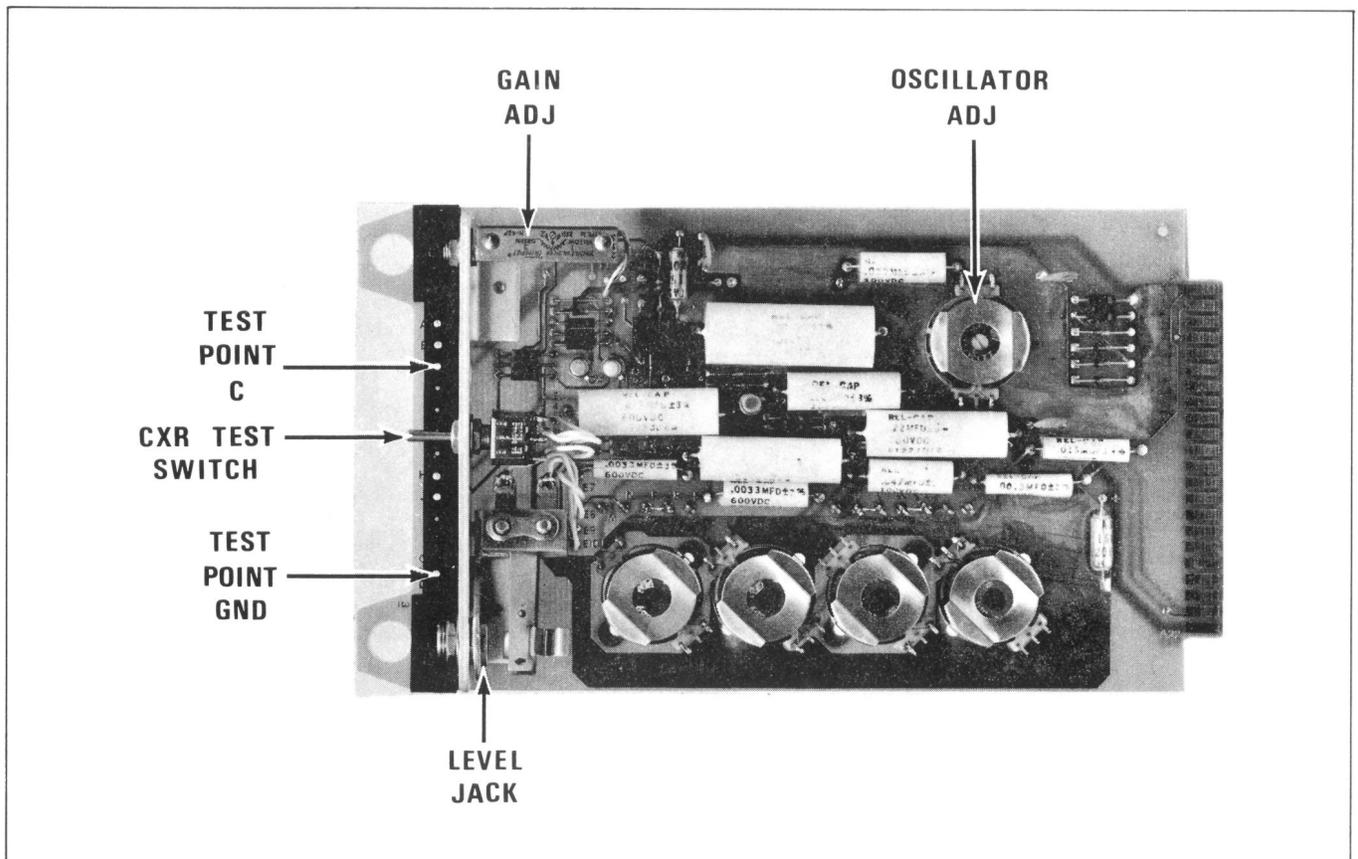

Figure 27 - Card 001449 - Component Arrangement
- a. Using a nonmetallic tuning tool, adjust the OSCILLATOR ADJ slug (Figure 27) for a counter reading of precisely 1580 Hz. (Keep the CXR TEST switch at SP during this step.)